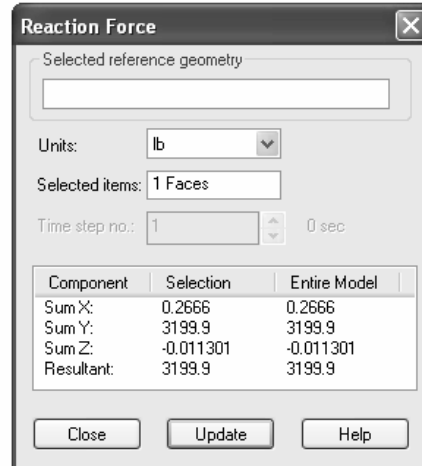

Figure 26 – **Reaction Force** window listing reactions on a selected surface of the model.
- Within the **Reaction Force** window, click to select the **[Update]** button. The updated **Reaction Force** window appears in Fig. 26.